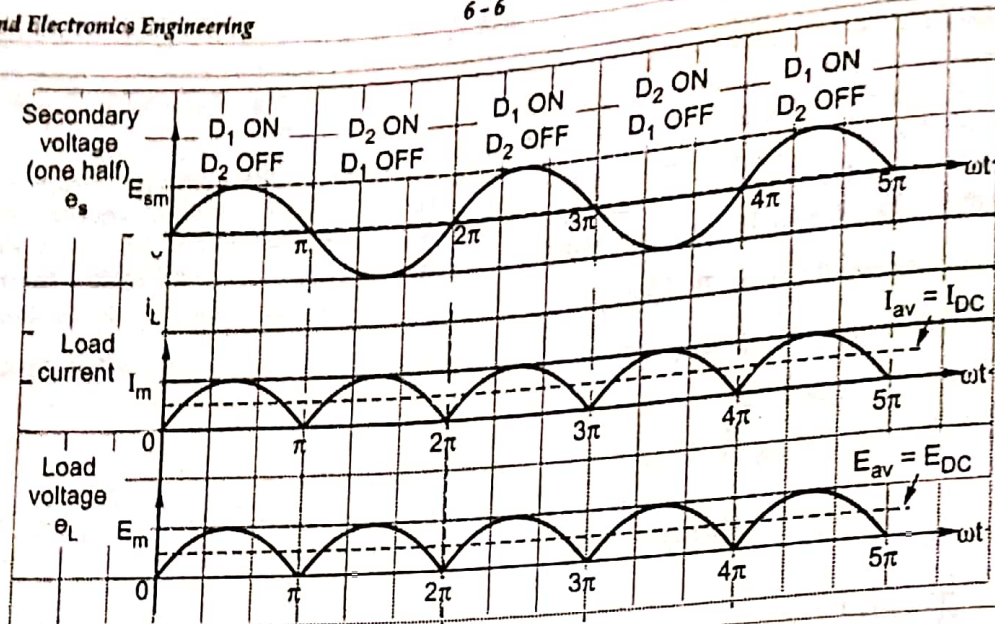

Fig. Q.12.2 Load current and voltage waveforms for full wave rectifier
- The waveforms of secondary voltage (one half), load current and load voltage are shown in the Fig. Q.12.2.